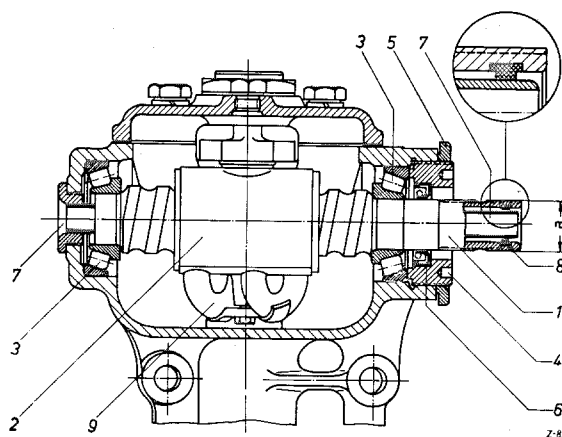

Fig. 46—6/1
**Note:** If loss of oil occurs at the steering, it is advisable to replace all three grease seals (6) and (8) in Fig. 46—6/1 and (10) in Fig. 46—6/2.